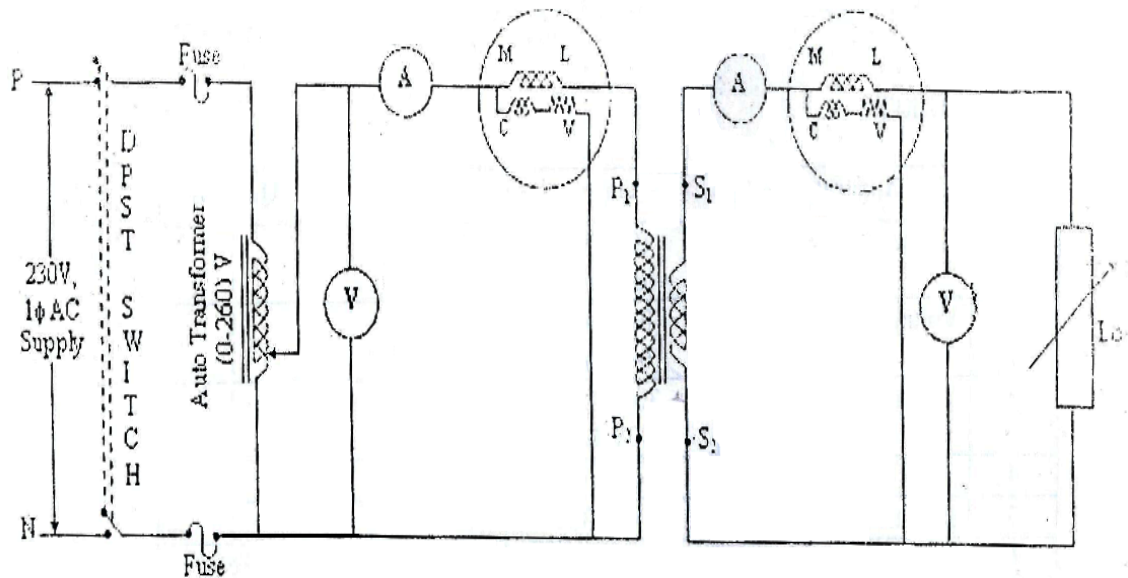

Figure-1
1. Connect the circuit as shown in Figure-1.